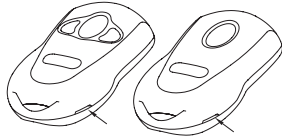

Figure MA-3 Pry case open at the notch
- A** FOR NON-FLASHLIGHT MODELS (**Figure MA-3**)